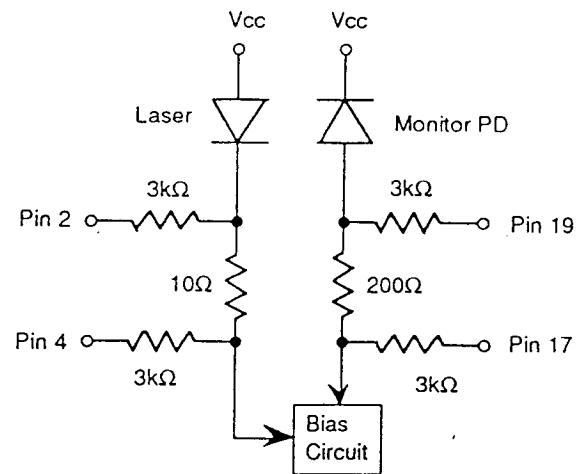

Figure 3 Monitor Circuit Schematic Diagram
7. The Laser Bias and Rear Facet Monitor currents are calculated as ratios of the corresponding voltages to thier current-sensing resistors, $10\ \Omega$ and $200\ \Omega$, respectively (See Figure 3). Upon measuring or utilizing these values, use a device whose input impedance is high enough ($>1M\Omega$) compared with those resistors.
3. Please refer to Figure 3 for Pin 2, 4, 17 19.